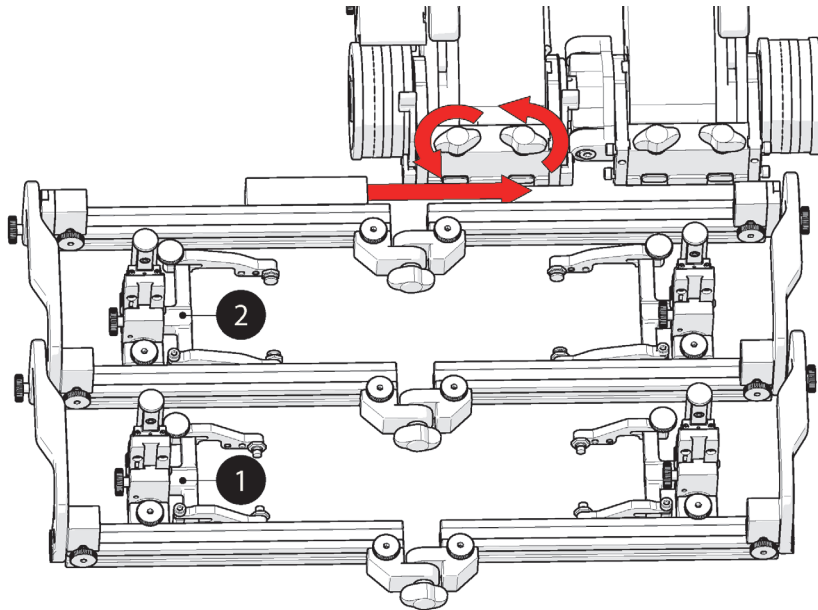

Figure 2-112 Connect frame to right drive module
2. Affix the probe holders, with attached wedges, to the probe holder frame (see Figure 2-112 on page 133):
- a) Place the secondary probe holders at the front of the frame (1).
- b) Place the primary probe holders at the rear of the frame (2).